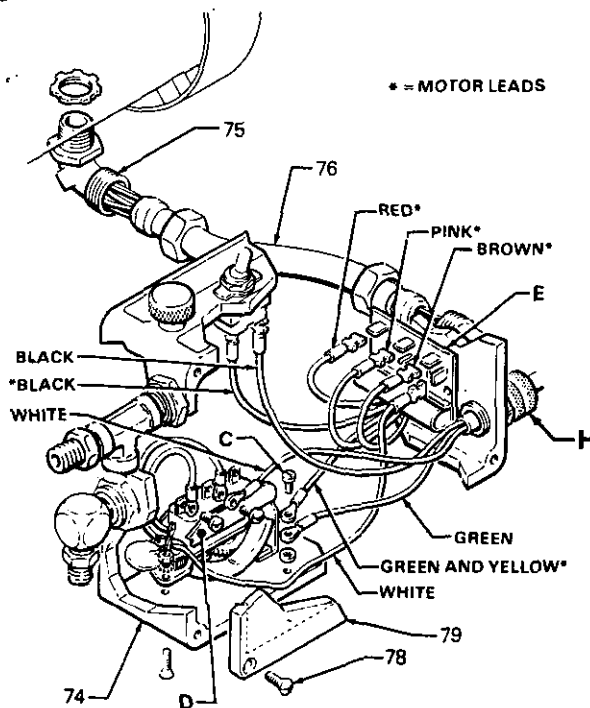

Fig 10
Remove the screws (8), lockwashers (9), nuts (18), and pressure control (74) from the frame. Remove the screws (78) and cover (79) from the pressure control (74). See Fig 10.
Disconnect the red, pink and brown motor leads from the circuit board (81). Disconnect the green and yellow motor leads from the grounding screw (C), and the black motor leads from the top of the pressure control (D). See Fig 10.
**NOTE:** A circuit board (81) is not included with the pressure control (74) replacement. Order the board separately if a new one is needed.
Unscrew the nut on the end of the conduit (76) from the connector (75). See Fig 10. Pull the pressure control (74) away from the conduit while carefully guiding the wires through the connector (75).
Loosen the knurled part of the power cord strain relief (H), and unscrew it from the pressure control. Slide the strain relief up on the power cord to provide clearance, and unscrew the conduit connector (75). See Fig 10.
If only the circuit board (81) needs to be replaced in the pressure control, remove the screws (78) and the front cover (79). See Fig 10. Pull the board out carefully, just far enough to reach the wire terminals. Unsnap the wires and finish removing the board.
Position the new card at the control so the wire connectors are at the top. Following the color coded diagram in Fig 10, snap the wires onto the board. Carefully guide the wires back into the control, making sure they don't catch on anything, then slide the new board into place. Check the pressure control calibration. See page 19.